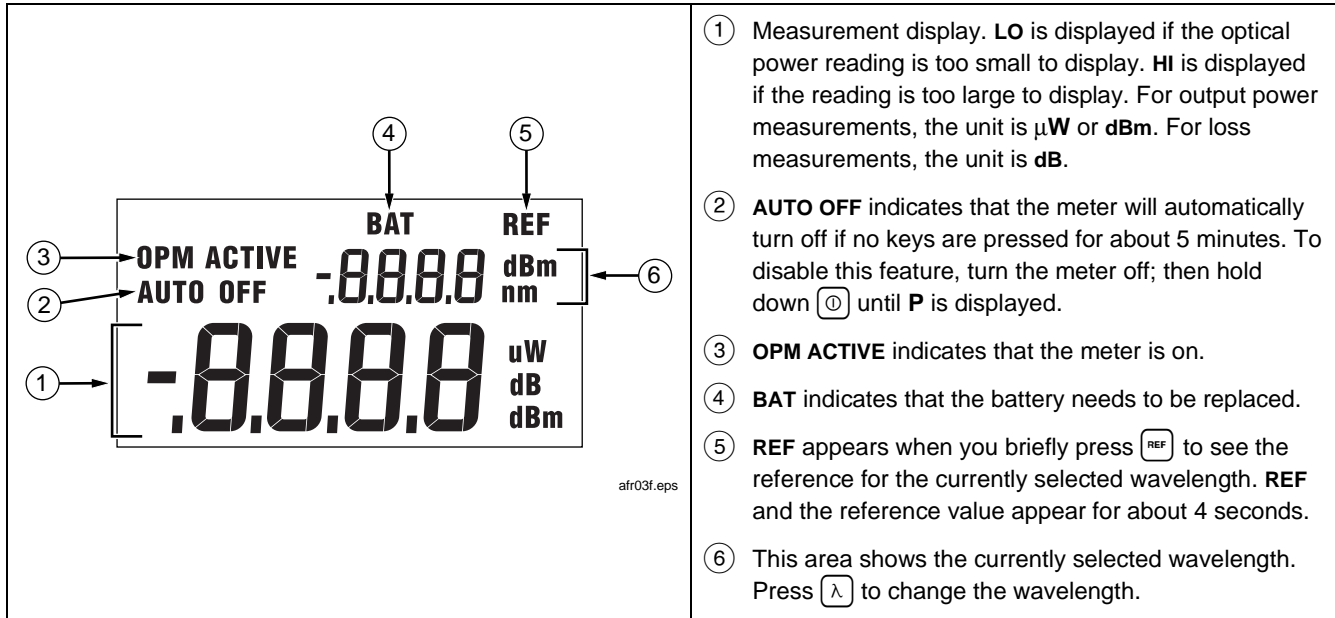

Figure 3. Display Features
①	On/off key. Hold down  to turn the meter on. The automatic power-down feature, which turns the meter off if no keys are pressed for 5 minutes, is enabled when you turn the meter on. To disable this feature, turn the meter off; then hold down  until P is displayed.
② ③	Press  to save the current measurement in non-volatile memory. Press  briefly to view or replace a saved measurement. Hold down  to send stored measurements to a PC or serial printer. See “Memory Functions” and Appendices A and B for details. To clear from memory all saved measurements for the current wavelength, hold down  and  together until HELD appears.
④	Toggles the meter between power (dBm) and loss (dB) measurements. Loss readings are compared to the stored reference level. Hold down  until HELD appears to change the measurement units to μW .
⑤	Press  briefly to display the reference value for the currently selected wavelength. Hold down  to store a new reference value for the displayed wavelength.
⑥	LCD display. See Figure 3 for details.
⑦	Serial connector for printing to a serial printer or uploading saved measurements to a PC.
⑧	Removable adapter cap with an ST connector for connecting to multimode or singlemode patch cords.
⑨	Changes the wavelength to be measured. To see the percentage of battery life remaining, hold down  until HELD appears.
⑩	Used in recall mode to scroll through saved measurements.